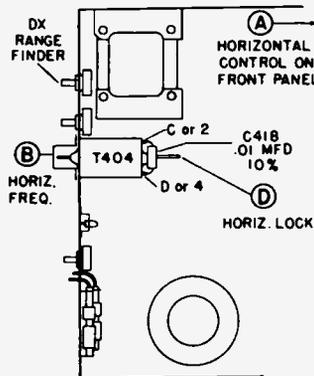
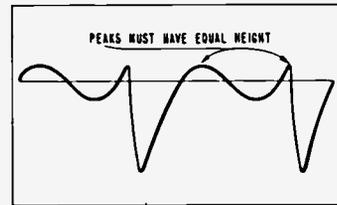

Figure 11. Bottom View of Chassis Showing Horizontal Sync Adjustments.
Figure 12. Horizontal Oscillator Waveform.
- Connect oscilloscope high side through a **10 mmfd. capacitor** to terminal marked "C" or "2" on the horizontal oscillator transformer T404 (see figure 11). It is important to use short leads and a very low capacity capacitor (at least 10 mmfd.) to avoid loading the circuit and thus distorting the waveform.
- Adjust the **Horizontal Lock** slug (D) (see figure 11) until the oscilloscope waveform pattern appears as in figure 12. The rounded and pointed peaks of the waveform must have equal height. The picture must be kept in sync to obtain the proper oscilloscope waveform pattern. Keep the picture in sync by adjusting the **Horizontal Frequency** adjustment (B). If the picture still will not sync, check for a defective tube, components, or wiring, before continuing further.